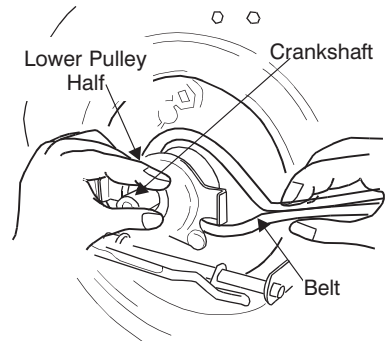

Figure 25
14. Lift off the lower pulley assembly and remove the old belt from around the crankshaft. See Figure 25.
15. Place the new belt over the transmission pulley. Start the belt in pulley groove and rotate pulley until belt is seated in transmission pulley. See Figure 25.